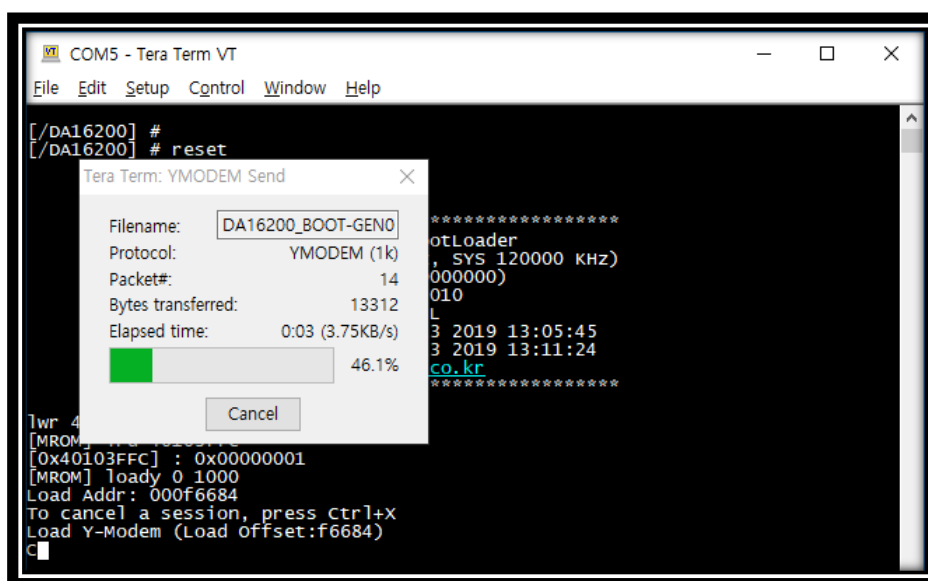

Figure 6: Programming FBOOT Image
3. After opening the macro file, the FBOOT firmware image is programmed as shown in Figure 6.